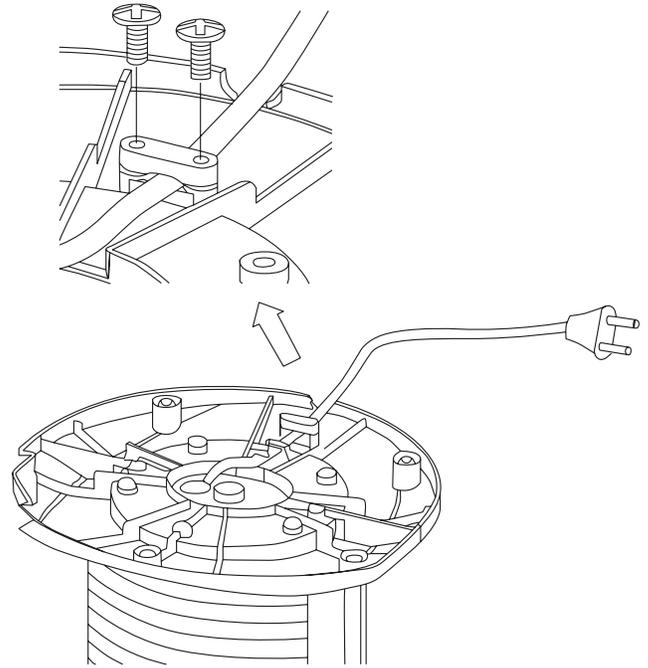

FIGURE 2
2. Once base is set in place, loosen screws on power cord holder and pass power cord through. Then, tighten power cord holder screws (see Figure 2).